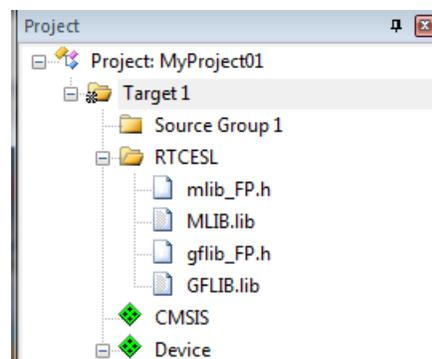

Figure 1-31. Project workspace
8. Now, all necessary files are in the project tree; see Figure 1-31. Click Close.